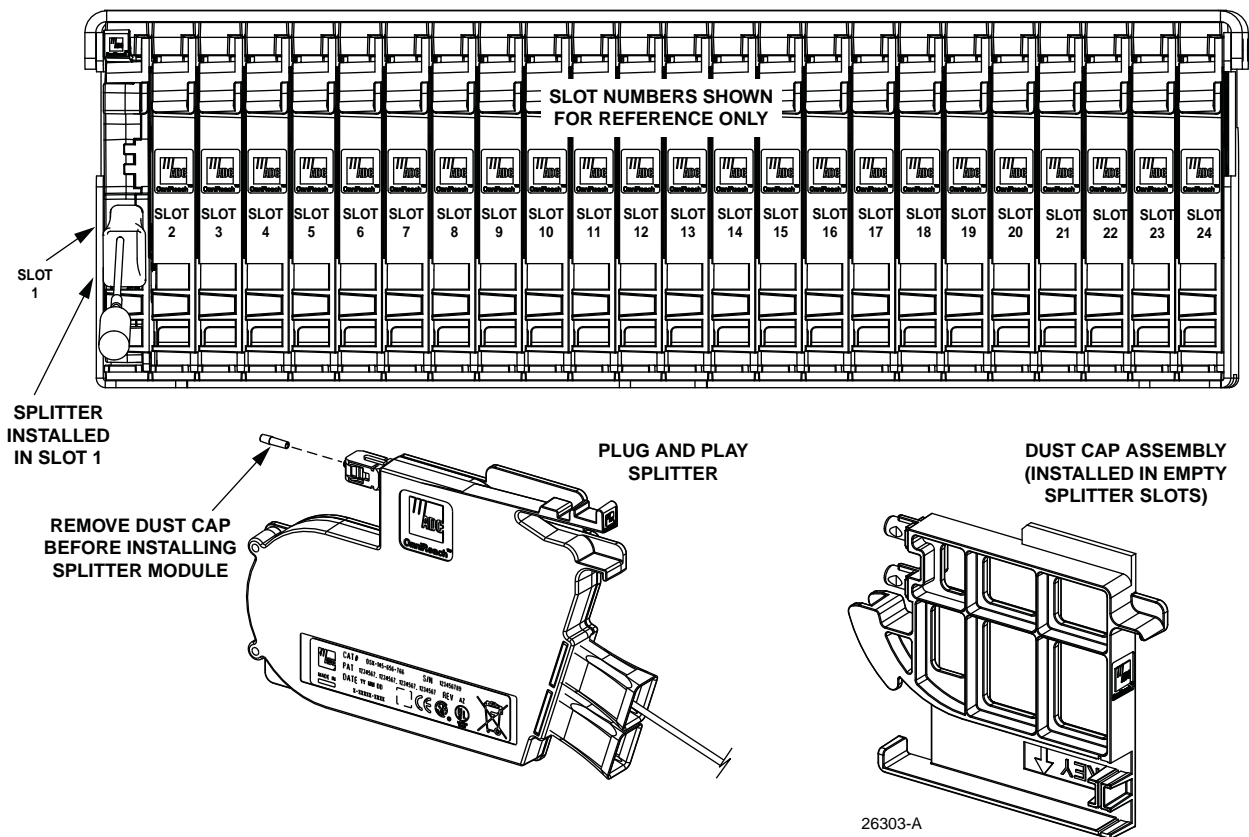

Figure 19. Splitter Module Mounting Slots
2. Locate the next available splitter mounting position as shown in Figure 19.